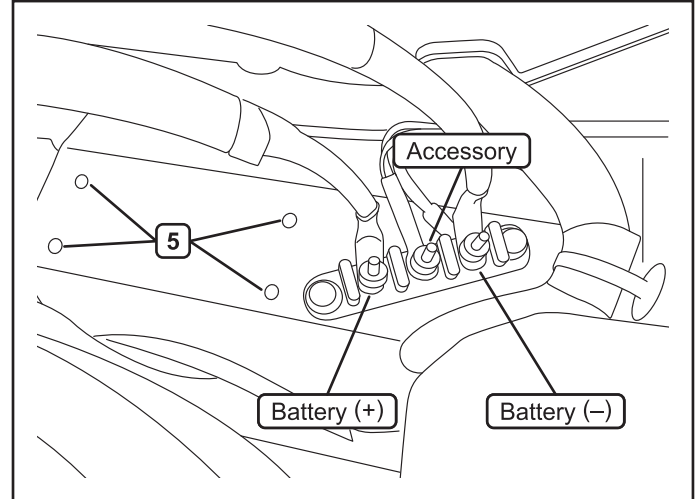

Figure 12.
Battery Location: Battery power has been pre ran to the front storage area as shown in figure 12.
Suggested Contactor Location is in the front storage area. Use bolts (I) to secure your contactor to the predrilled holes (5). See figure 12.
Accessory Power for Switches and Other Controls is located between the battery connections. See figure 12.